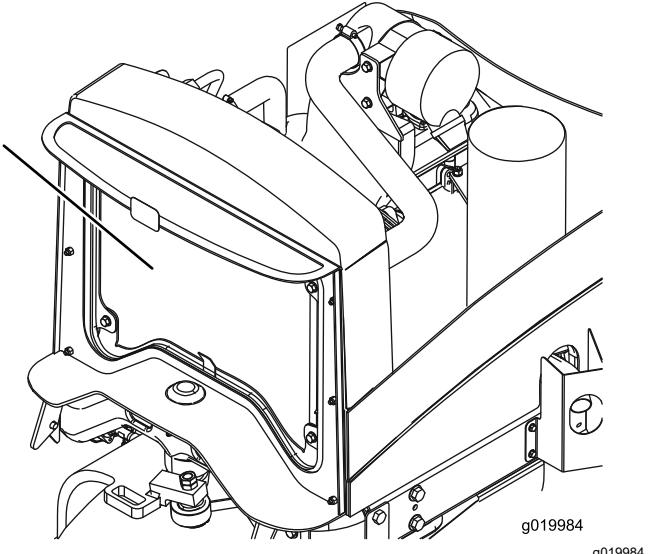

Figure 61
2. Clean both sides of the radiator/oil cooler thoroughly with compressed air (Figure 61).